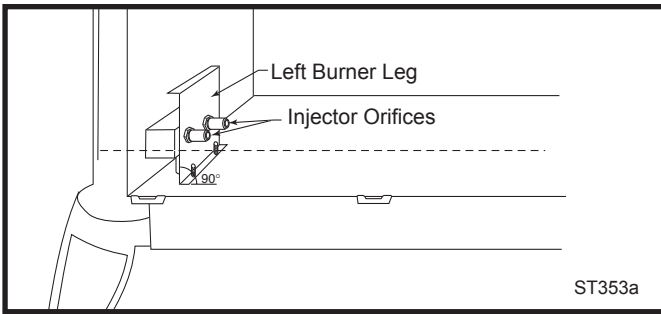

Fig. 41 Remove and replace injector orifices.
9. Refasten the two nuts and assemble the burner into the unit by sliding the burner in at an angle with the left side lower than the right side. Slide the left side onto the injectors. Lower the right hand side down into place. Make sure the burner is as far left as possible and the injector shoulders are inside the burner. **NOTE:** It is very critical to keep the left burner leg, which holds the injectors at a 90° angle to the base. (Fig. 41) This keeps the orifices aligned with tubes on the inside of the burner. Failure to do so could affect the flame appearance and performance of the unit.